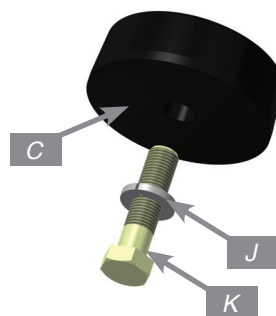
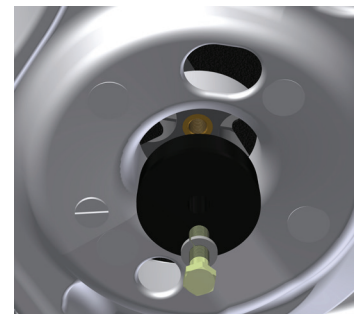

fig. 16
fig. 17
7. Seat the airspring within the lower control arm/roll plate and align the threaded center of the airspring with the lower spring seat. Apply a long bolt (K) and lock washer (J) through the centering spacer (C) and into the underside of the control arm (fig. 16). Thread the bolt into the airspring (fig. 17), and torque to 27 Nm (20 ft-lbs.)